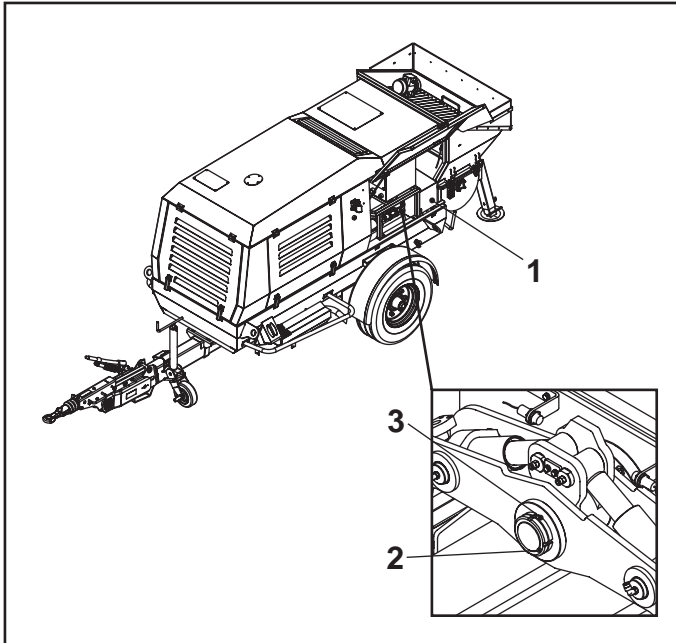

FIG.51
- Disassemble the jacks protection carter (FIG.51-REF.1).
- Loosen the ring nut (FIG.51-REF.2).
- Fasten the second ring nut (FIG.51-REF.3). It is normally enough to rotate it by 90° or 180°.
- block the 1st ring nut (FIG.51-REF.2).
- Remove the jacks protection carter (FIG.51-REF.1).
- Loosen the two ring nuts of the S valve (FIG.51-REF.2/3),